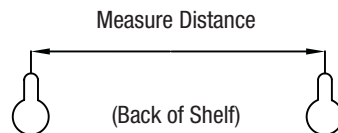

Figure 1
STEP 2: Draw a line on the wall, using the level, in order to determine where the screw holes will be located. Measure the distance that will be required between the screws in order to mount the ledge shelf. Mark the positions of the screws in the desired locations, as shown in **Figure 1**.